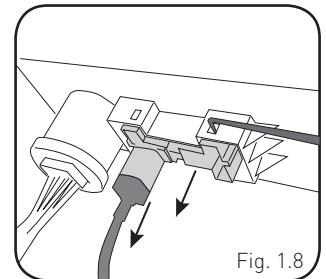

Fig. 1.8
7. Using a long pick tool press down on the four (4) clips securing the USB housing in place (two on top and two on bottom). Remove and disconnect USB plug. (Fig. 1.8)